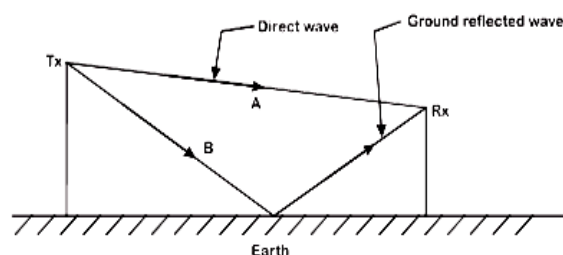

Fig.1.38 Space wave propagation
- ❖ In space wave propagation, the radio waves travel either straight through space or being reflected at ground shown by paths (A) and (B) respectively in fig 1.38.